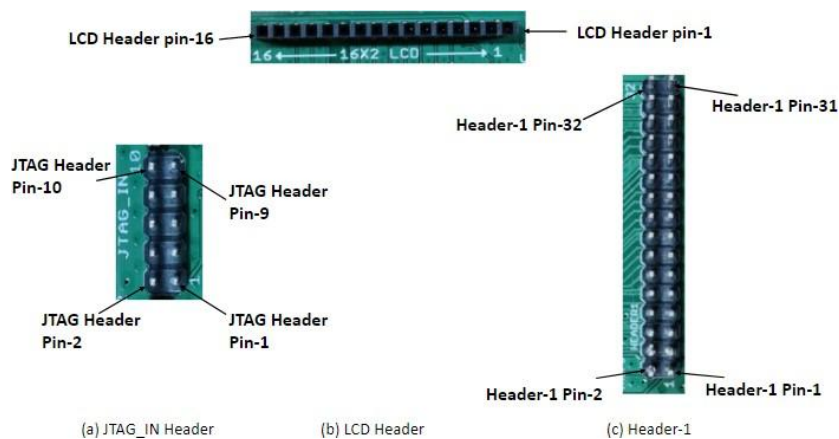

Figure 9: Pin mapping of headers
4. Using the header pins: Figure 9 shows the numbering convention for the general purpose I/O headers HEADER1, JTAG IN and LCD Connector. Tables 6 shows the pin mapping for these using the same numbering convention and pattern as in Figure 9.